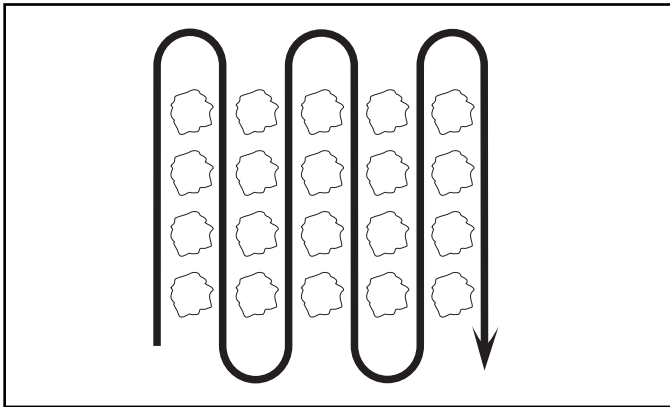

FIG. 15
- Cultivate up and down the rows at a speed which will allow tines to uproot weeds and leave the ground in rough condition, promoting no further growth of weeds and grass (See Fig. 15).